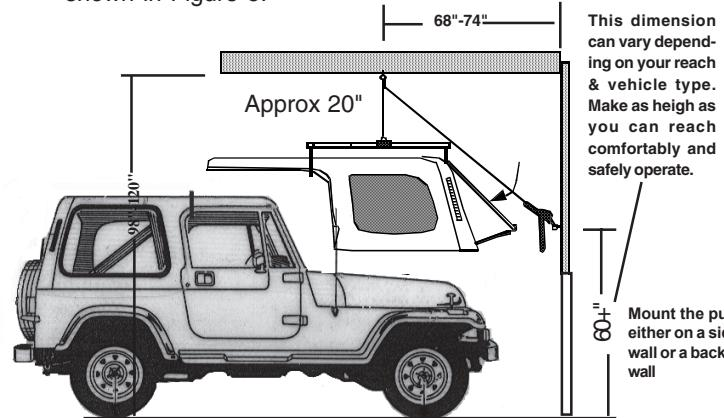

Figure 2, Typical Layout Measurement
1 Prepare your site, measure and mark according to Figure 2. Use the following diagram and mount the 1/2" Eye Bolt (5) by drilling a 3/8" hole in the ceiling joist as shown in Figure 3.
At a wall (side wall or back wall) as shown in Figure 2, about 60" or higher from the floor, drill a 3/8" hole in the stud and mount the second Eye Bolt (5).